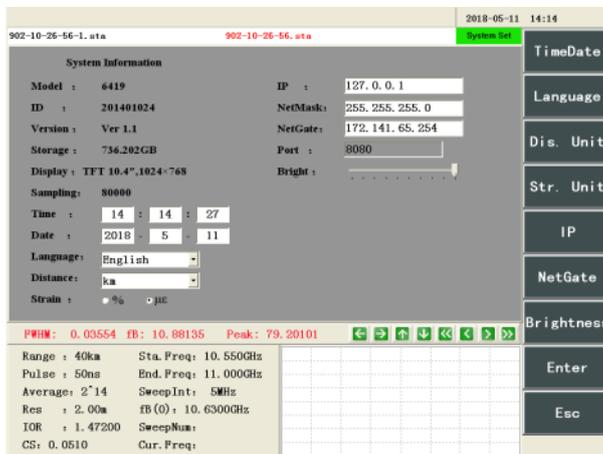

Figure 8-28 Interface of system settings
Step 2: Configure the IP address of the instrument. On the main interface, click [System] → [System Set] to enter the system configuration interface. Enter the IP address and gateway through the soft keyboard or the numeric keys on the front panel to ensure that the instrument and the computer are in the same network segment. Click the [OK] button to save the IP address, as shown in Figure 8-28.